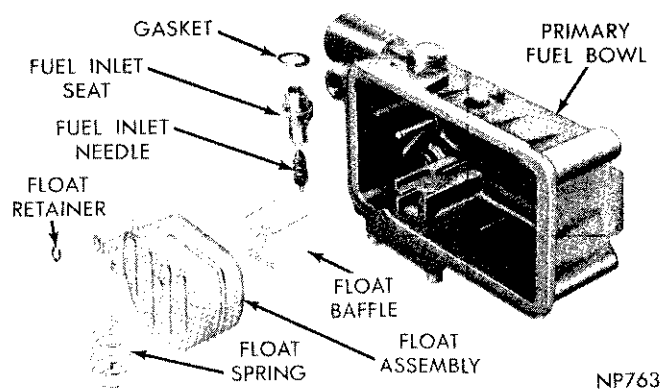

Fig. 11—Float, Needle, Seat and Baffle (Exploded View)
(3) Install new gasket on fuel inlet needle seat (Fig. 11) then install in fuel bowl. Tighten securely. Slide fuel inlet needle into seat.
(4) Install float baffle in position, then slide float hinge over pivot and secure with "E" clip. Install float spring.
(5) Install new gasket over fuel inlet fitting, then install fitting in primary fuel bowl. Tighten securely.
(6) Install bowl vent valve assembly on fuel bowl, being sure vent valve spring is hooked into bracket and loop of spring under operating rod. Position
(1) Install new gasket on fuel inlet needle seat (Fig. 11), then install in fuel bowl. Tighten securely. Slide fuel inlet needle into seat.
(2) Install float baffle in position, then slide float hinge over pivot and secure with "E" clip. Install float spring.